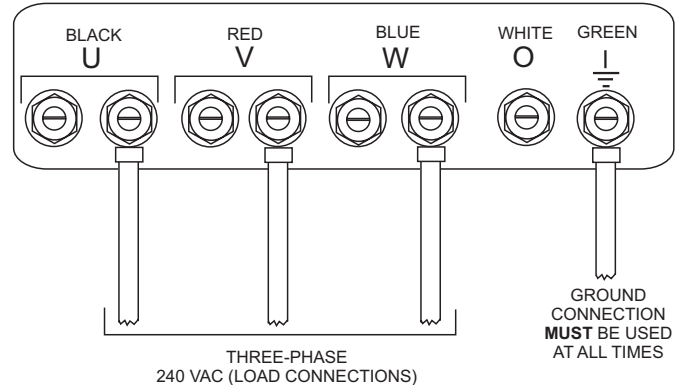

Figure 26. UVWO Terminal Lugs 3Ø-240/1Ø-139 Connections
2. Connect the load wires to the UVWO terminals as shown in Figure 26.